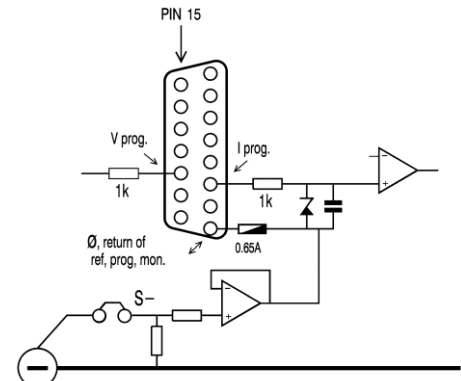

fig 4 - 4
- For the other units, the inputs have a protection circuit formed by a series resistor and a parallel zener (see fig. 4 - 4). The capacitor limits the speed to a safe value. **Note that the analog inputs (and outputs) are not floating, but the common is connected to the 'minus' DC output terminal.** Wrong connection of $\emptyset$ can cause earth loops which can trip the fuse. After removing the fault, the fuse will reset (PTC-fuse). For isolated programming see next paragraph.